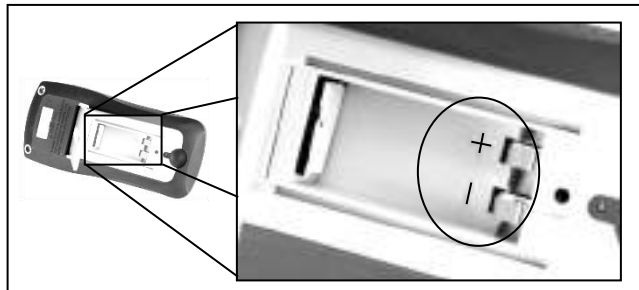

Figure 4 - Battery Compartment
2. Insert 9V battery into compartment. Note the positive (+) and negative (-) terminals as indicated inside the battery compartment (See Figure 4). Be sure to insert the battery with matching polarity.